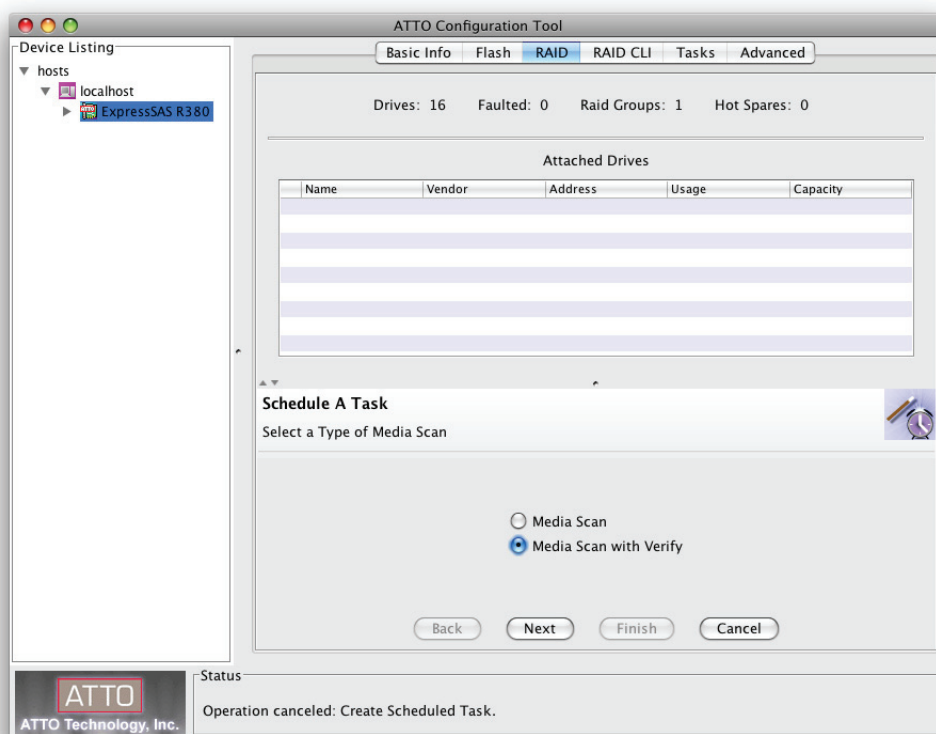

Figure 25
3. Select Media Scan or Media Scan with Verify, and then click next. See **Figure 25** on page 29.